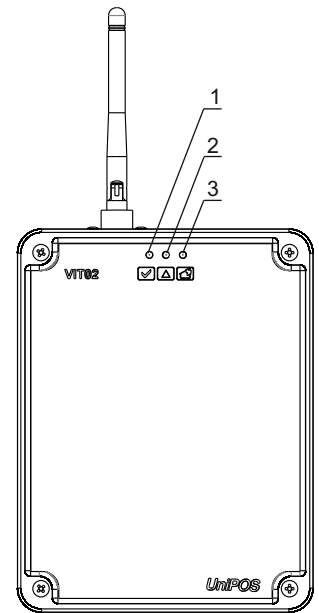

Fig.1
Built indication, green (pos.1, fig.1), yellow (pos.2, fig.1) and red (pos.3, fig.1) LED provides status information to the router: